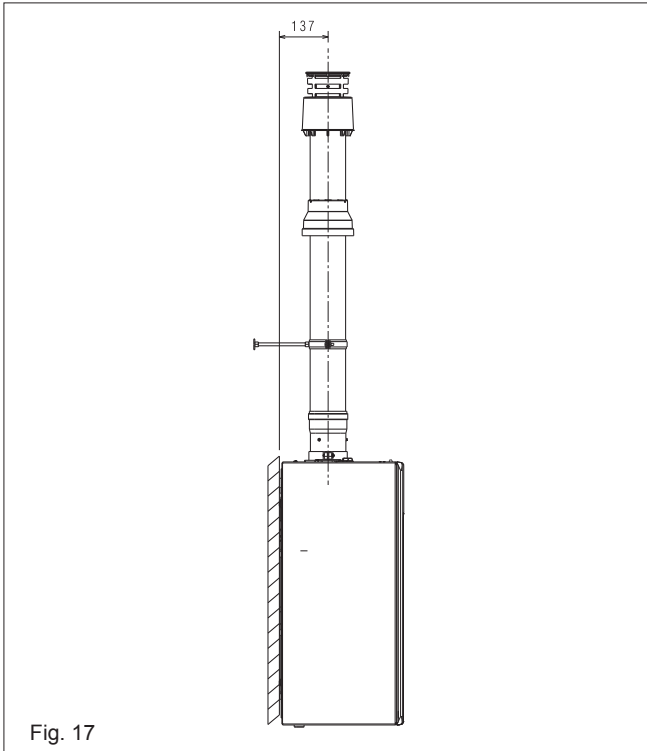

Fig. 17
Using Fig. 17 as a reference, cut a 110mm diameter hole in the roof and/or ceiling to facilitate the route of the vertical flue system. **NOTE:** ensure that the top of the appliance - if already in position - is covered and protected from the possibility of any dust or debris falling or entering the appliance via the flue outlet.
4.3 CONNECTING THE GAS AND WATER ("FIG. 17")